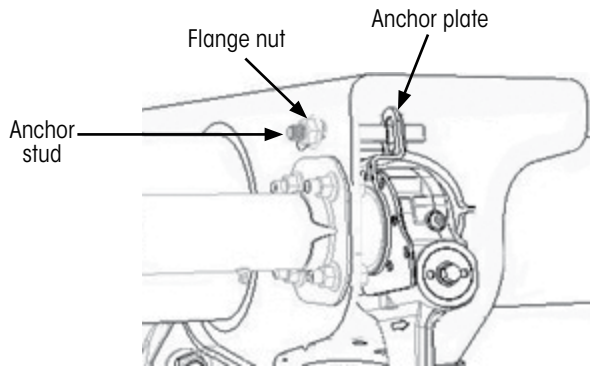

Figure 4: Anchor stud
8. Insert the anchor stud through the side of the beam and through the anchor plate slot on the S-ASA Figure 4.